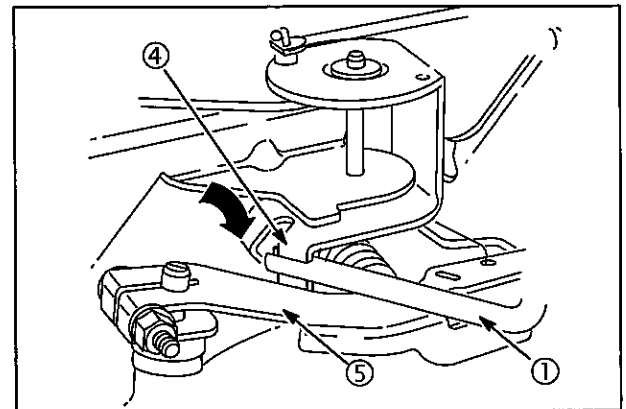

Fig. 36
3. Use Tool #19352 (1) to bend throttle restrictor tang (4) so that it just contacts governor lever (5), Fig. 36.